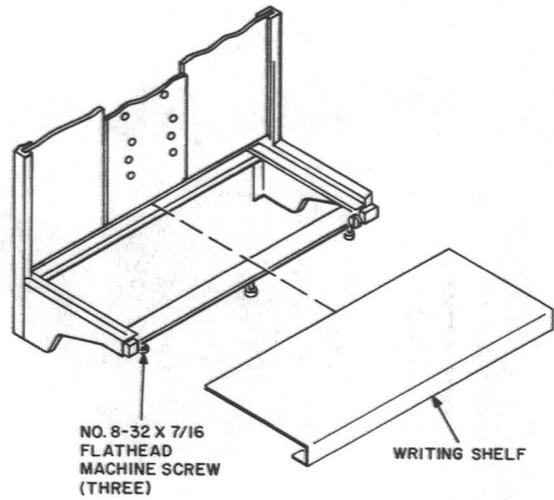

Fig. 18—Assembly of Writing Shelf on KS-19267 Shelf
- (1) Remove the KS-19267, List 11 directory rack or KS-19267, List 13 cover assembly.
- (2) Remove the writing shelf from frame per Fig. 18.
- (8) Install the writing shelf per Fig. 18.
- (9) Install a KS-20030, List 1 or List 2 directory hanger to the List 14 mounting bracket.